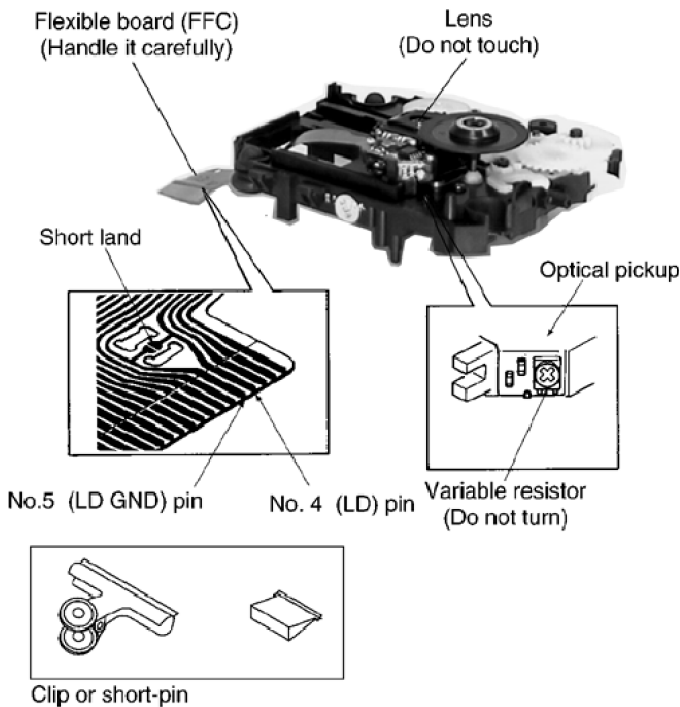

Fig 1
2. The short land between the No.4 (LD) and No.5 (GND) pins on the flexible board (FFC) is shorted with a solder build-up to prevent damage to the laser diode (Fig 1).